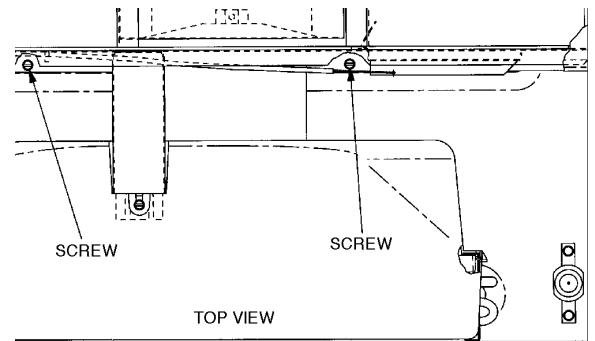

FIGURE 26 — PARTITION FLANGE SCREWS
6. With a $\frac{5}{16}$ -in. nut driver, locate and remove the 8 screws mounting the fan section to the chassis. See Figures 26 and 27.